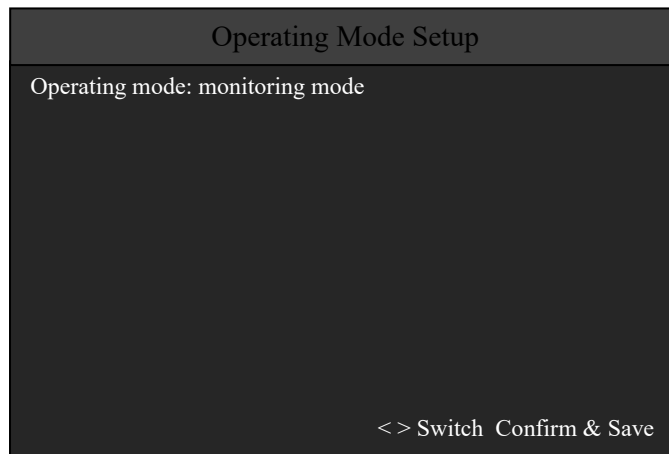

Fig. 3-27 Operating mode setup
In system setup interface, press number key 6 or move the cursor to 6, and then press "√" key to go into system operating mode interface. In this interface, set current operating mode of the control panel to debugging mode or monitoring mode, as shown in Fig. 3-27.